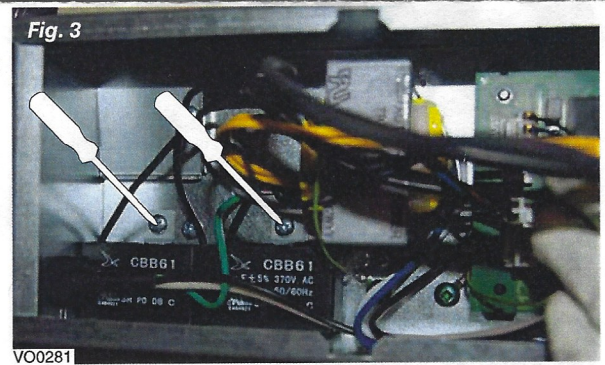

Fig. 4
- If changing the supply motor, cut the foam band over the motor wire (Fig. 4), making sure not to damage the unit's insulation, and free the motor wire from the unit's insulation.